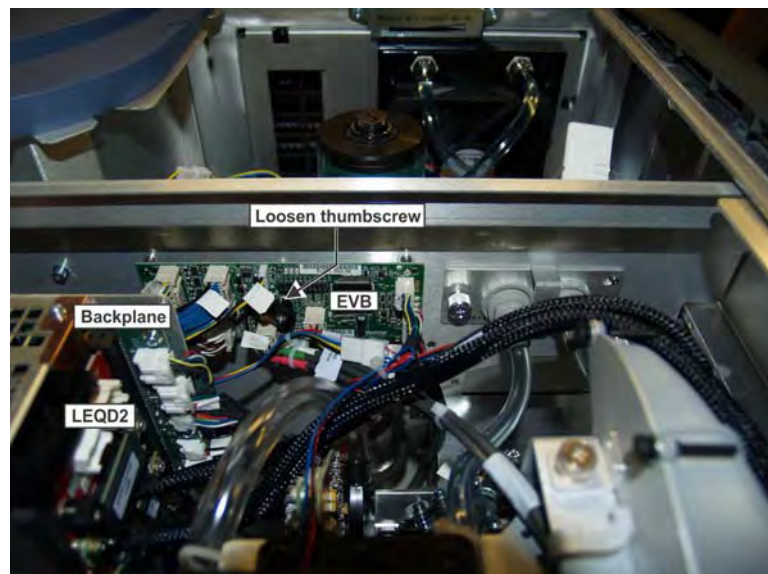

Figure 5-41 Remove EVB
3. Loosen the single thumbscrew securing the EVB in place. **(Figure 5-41)**